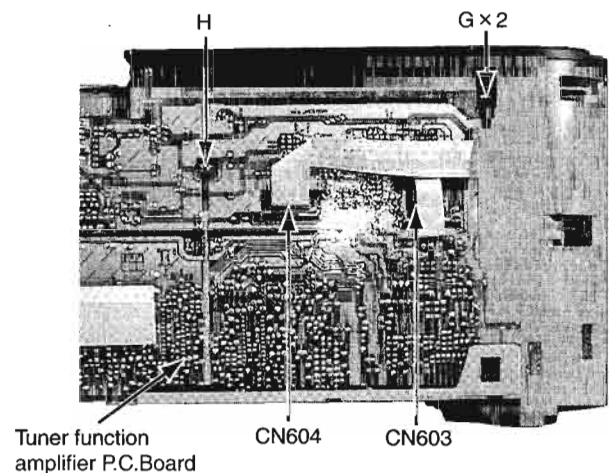

Fig. 6
7. Disconnect the card wire from CN603, CN604 on the CD servo control P.C.Board (See Fig 6).